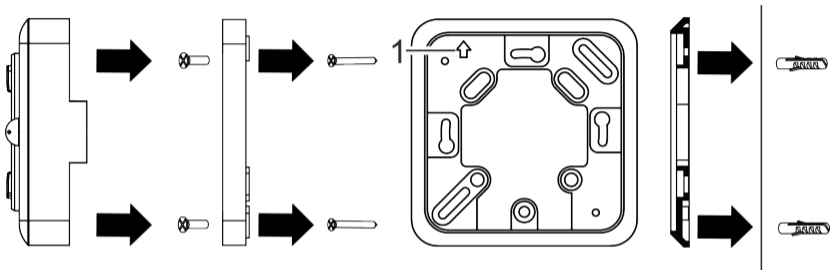

Fig. 5: Installation in a flush-mounted socket and on-wall mounting
1. Attach the mounting plate to the flush-mounted socket with screws (3.5 x 25 mm) (Fig. 5).
The arrow (Fig. 5/1) on the mounting plate should point upwards.
- Attach the housing base of the device to the mounting plate with the screws (3 x 6 mm) (Fig. 5).
4. Fasten the housing base to the wall-plugs with the screws (3.5 x 25 mm) (Fig. 5).